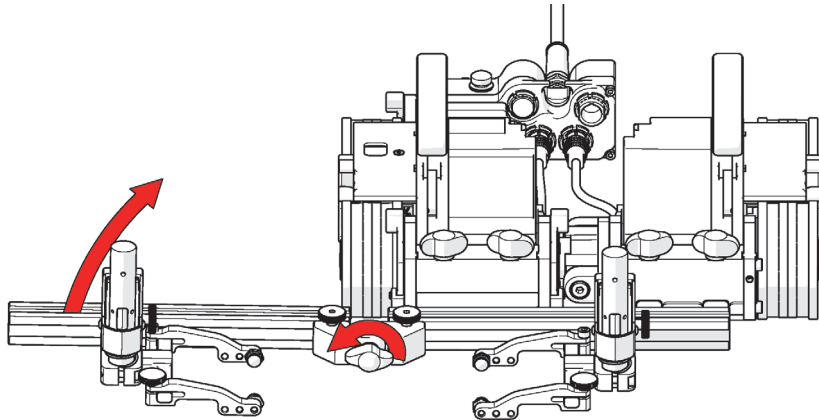

Figure 2-117 Lift frame bar to avoid interference
2. Loosen the pivot wing knob and raise the frame bar to an angle greater than the surface to be scanned (see Figure 2-117 on page 139). Tighten the pivot wing knob and place the SteerROVER on the scan surface (see “Placement of SteerROVER on the Inspection Surface” on page 171).